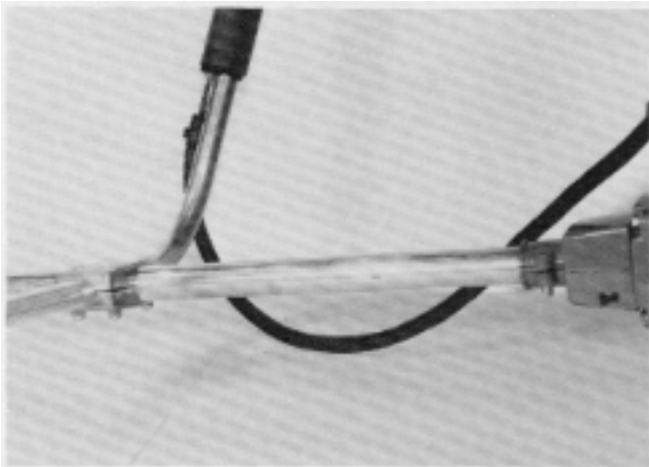

Figure 128
1. Remove the cutter implement by inserting a flat blade screwdriver into the hole in the top of the shield, then rotating the cutter implement clockwise (as viewed from the bottom of the trimmer). See Figure 128.